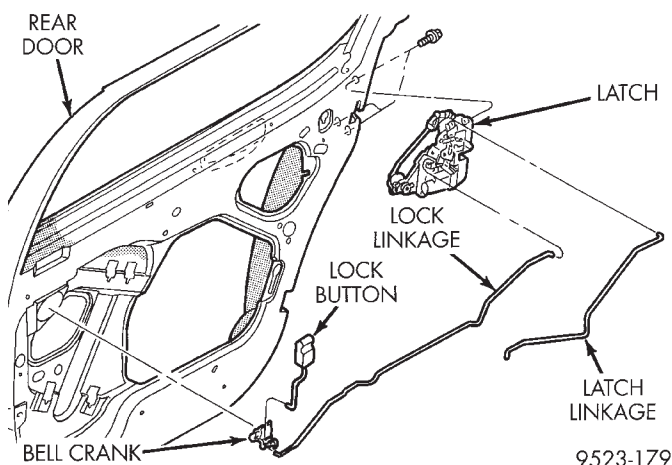

Fig. 40 Rear Door Latch
- (1) Remove rear door trim panel.
- (2) Close door glass.
- (3) Remove lower rear run channel.
- (4) Disengage clips holding linkage rods to door latch.
- (5) Separate linkage rods from latch (Fig. 40).
- (6) Remove screws holding latch to door end frame.
- (7) Separate latch from door.